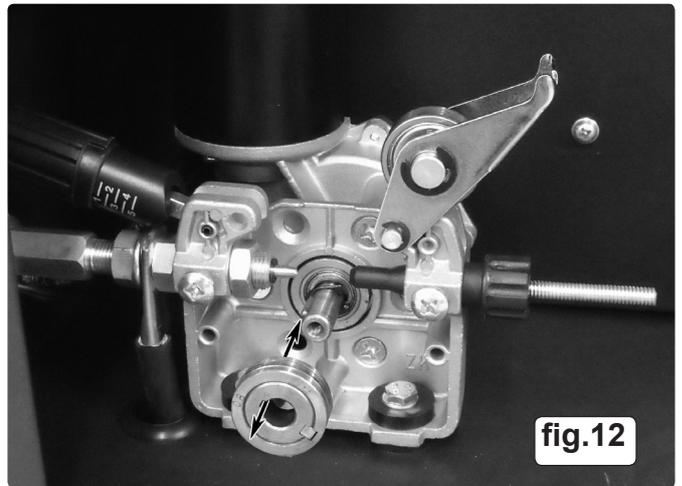

fig.12
6.1.6 With the carrier, roller and key reassembled as shown in fig.13B, orientate the carrier so that the keyway in the carrier itself is aligned with the key on the wire feed drive shaft as shown in fig.12. Slide the carrier fully onto the drive shaft and fix it in position by screwing into place the black knurled knob previously removed.